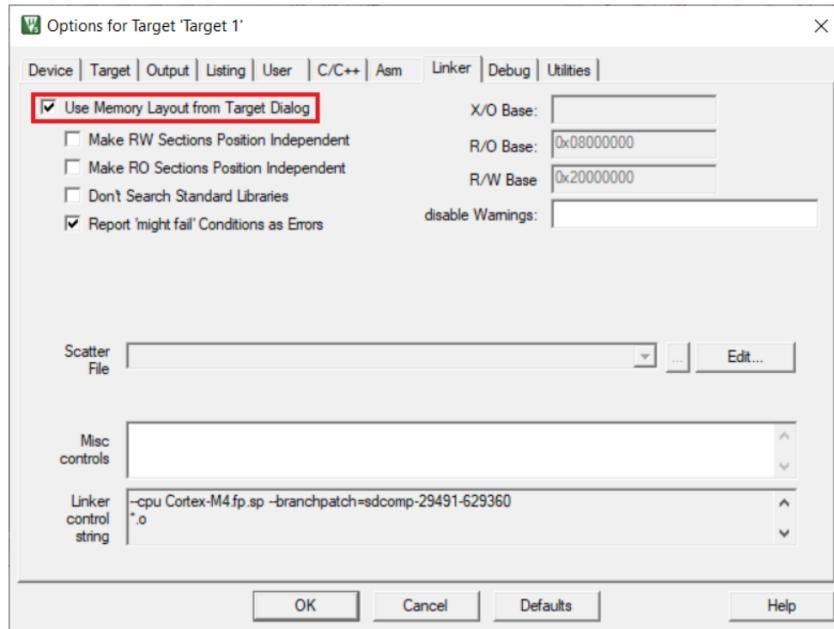

Figure 9
- Under the **Linker** tab, select **Use Memory Layout from Target Dialog** (see Figure 9).